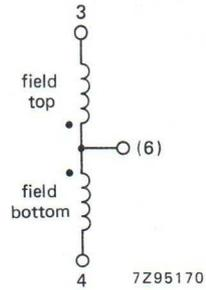

Fig. 2b Field coils.
**Field deflection coils**, series connected (Fig. 2b) terminals 3 and 4